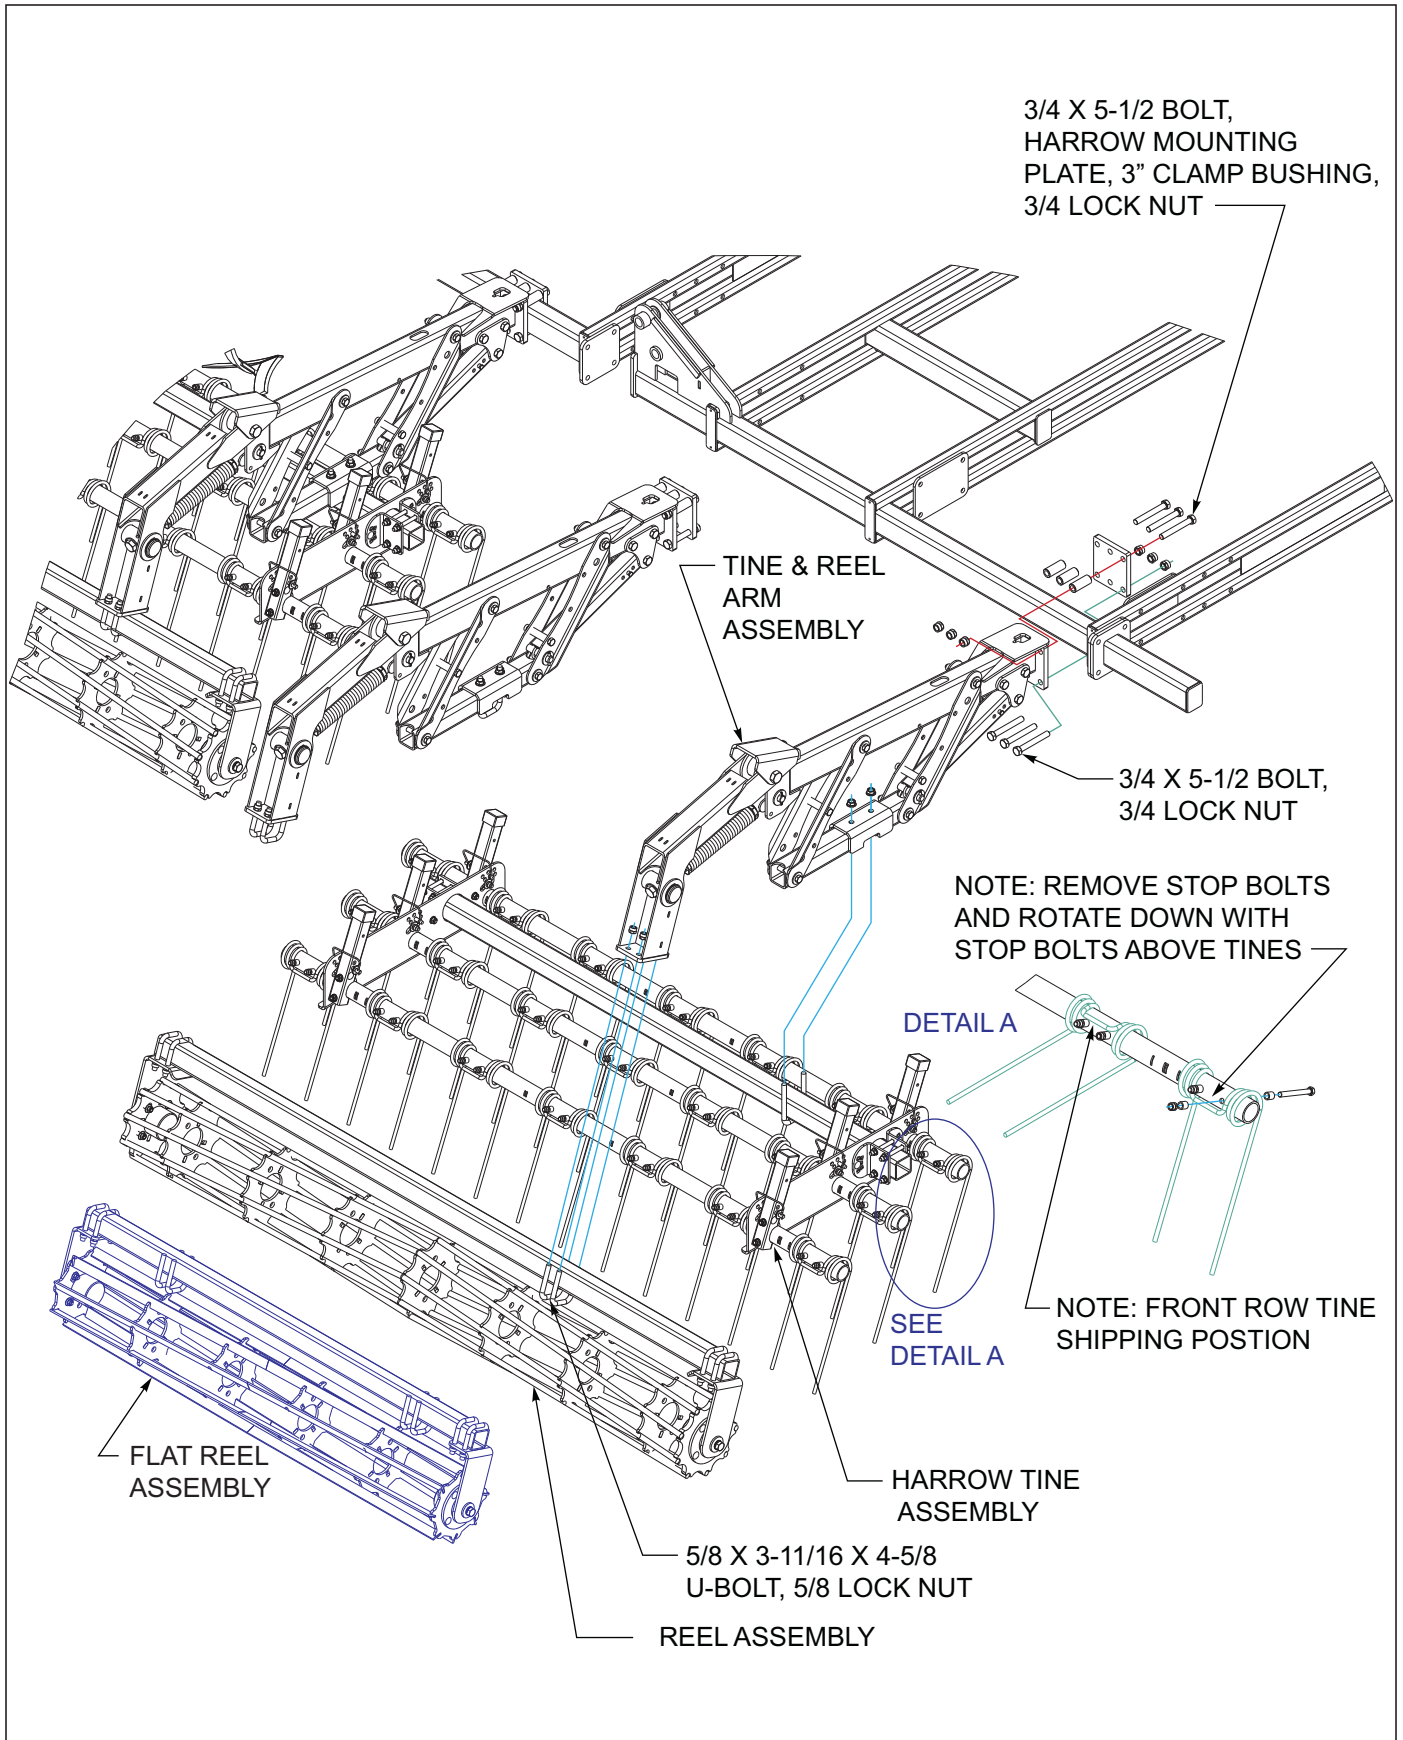

Figure 3-20: 3 Row Coil Tine and Reel Harrow Installation
1. Attach the tine/reel arm assemblies to the rear tube of the center and wing frames using harrow mounting plates, 3/4 x 5-1/2 bolts, clamp bushings and 3/4 lock nuts *See Figure 3-20*. Clamp bushings are installed on the top mounting bolts.